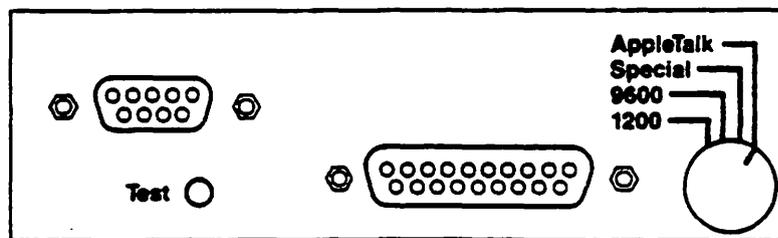

Figure 1-9 : Rear (I/O) Connector Plate
1. The TEST light on the rear (I/O) connector plate (Figure 1-9) comes on continuously (either steady or blinking) if the LaserWriter I/O board is malfunctioning. (If the board is functioning correctly, this light will blink once and then go out when the printer is turned on.)